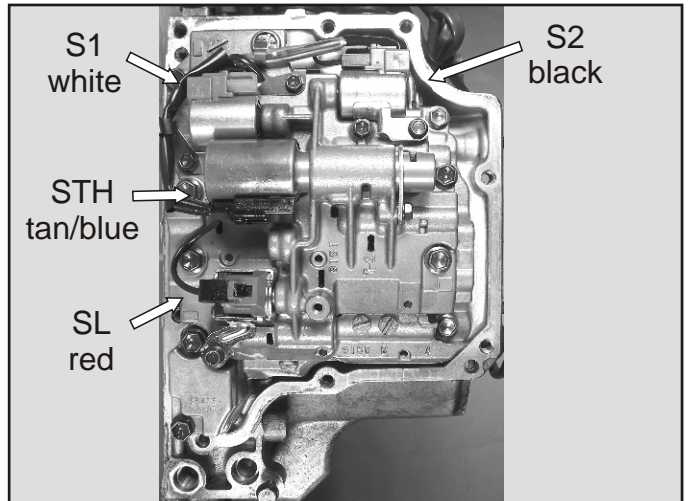

Figure 88
37. Remove the four solenoid connectors shown in Figure 88 and move the internal wire harness away from the valve body retaining bolts. *Note: The wire colors are listed below each solenoid.*